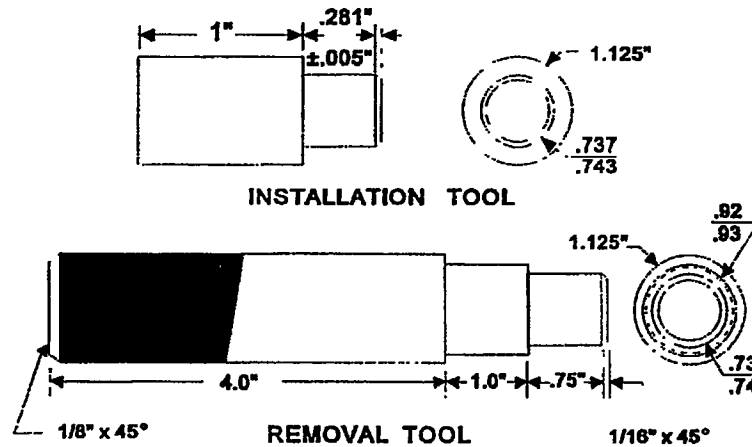

Figure 600-2.59. Conrod Removal and Installation Tool
- b. Examine all conrod bushings for wear. Remove any bushing that has excessive wear with a large flat tipped punch or the special removal tool illustrated in figure 600-2.59. This tool can be easily fabricated on a metal lathe. Use a vice to hold the conrod while the bushing is forced out of the hole.